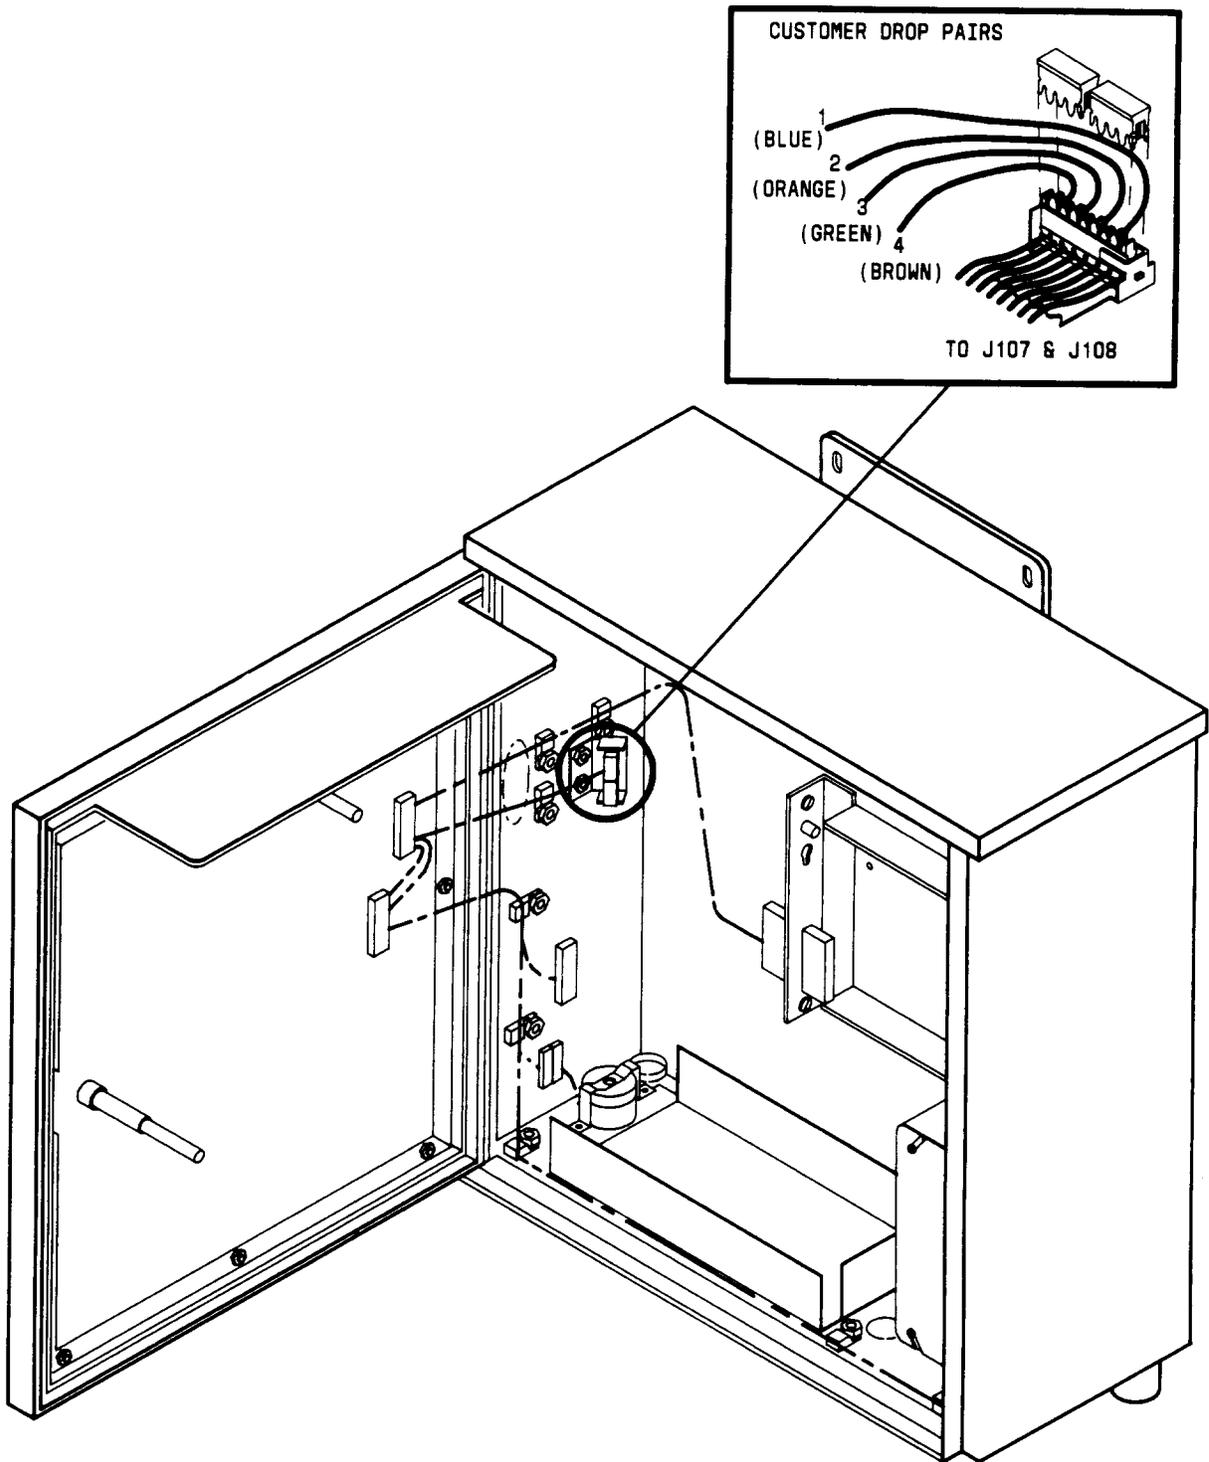

Fig. 1—Customer Drop Pairs Access in DT Cabinet
20. For **BUSY** indicator, verify no channels are in use and remove connections at the **NIU**. At 108 connect block (Fig. 1) remove Tip-Ring pairs to **NIU** and observe **BUSY** indicator.